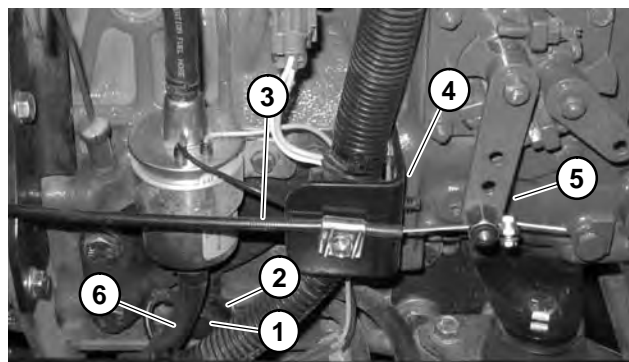

Figure 9
A. Battery, wire harness and engine grounds (Fig. 9).
9. Disconnect throttle cable from the support and swivel on the speed control lever (Fig. 9).
10. Disconnect fuel hose from the fuel pump (Fig. 9) and front injector nozzle.
8. Connect fuel hose to the fuel pump (Fig. 9) and front injector nozzle.
- A. Engine grounds to the battery and wire harness (Fig. 9). Torque the engine ground bolt to **34 to 42 ft-lbs (46 to 57 N-m)** and apply a coat of terminal protector.
14. Connect throttle cable to the support and swivel on the speed control lever (Fig. 9).